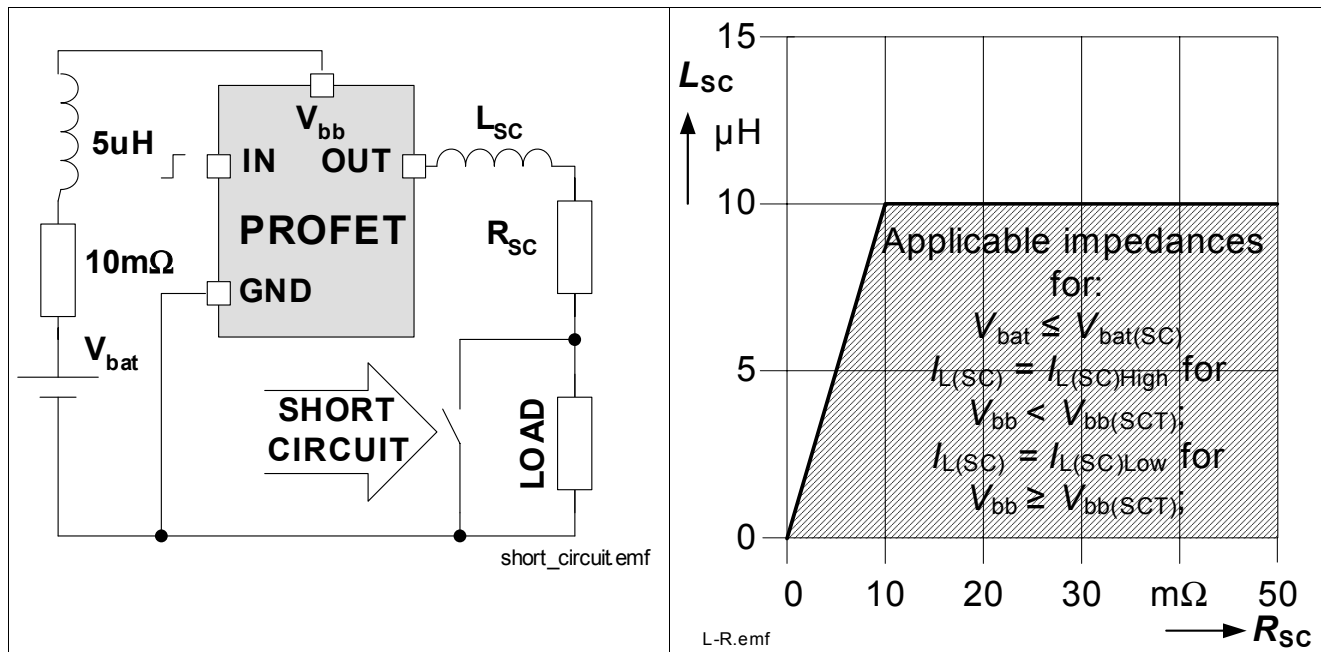

Figure 15 Short circuit
*Note: In case of a short circuit between OUT and ground, a impedance between  $V_{bat}$  and  $V_{bb}$  pin of the device (see Figure 15) may cause the device's supply voltage to drop below  $V_{bb(u)}$  before short circuit shutdown threshold is reached. In that case, the device will detect an undervoltage condition and behave as described in Chapter 5.7.*
The capability to handle single short circuit events depends on the battery voltage as well as on the primary and secondary short impedance. Figure 15 outlines allowable combinations for a single short circuit event of maximum, secondary inductance for given secondary resistance.